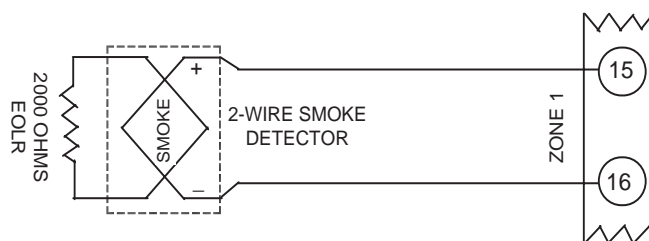

Figure 6-1. 2-Wire Smoke Detector Connected to Zone 1 (The same detector can also be connected to Zone 2, terminals 17(+) and 18(-).)
1. Connect 2-wire smoke detectors across zone 1 and/or zone 2 terminals (15 through 18) as shown in *Figure 6-1*. Observe proper polarity when connecting the detectors.